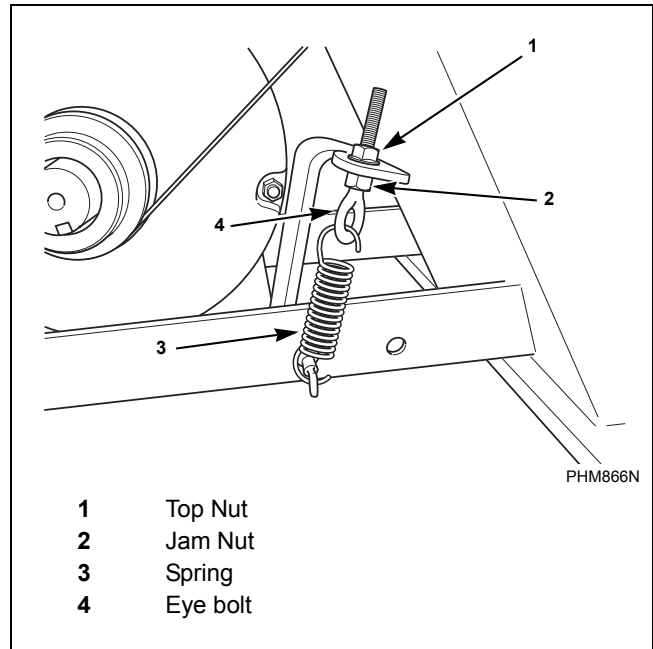

Figure 37
- **Frequency Gauge.** Tighten eyebolt top nut until a frequency of 58 Hz ( $\pm 2$  Hz) is obtained mid-span. Tighten jam nut to spring bracket. Refer to *Figure 37*.